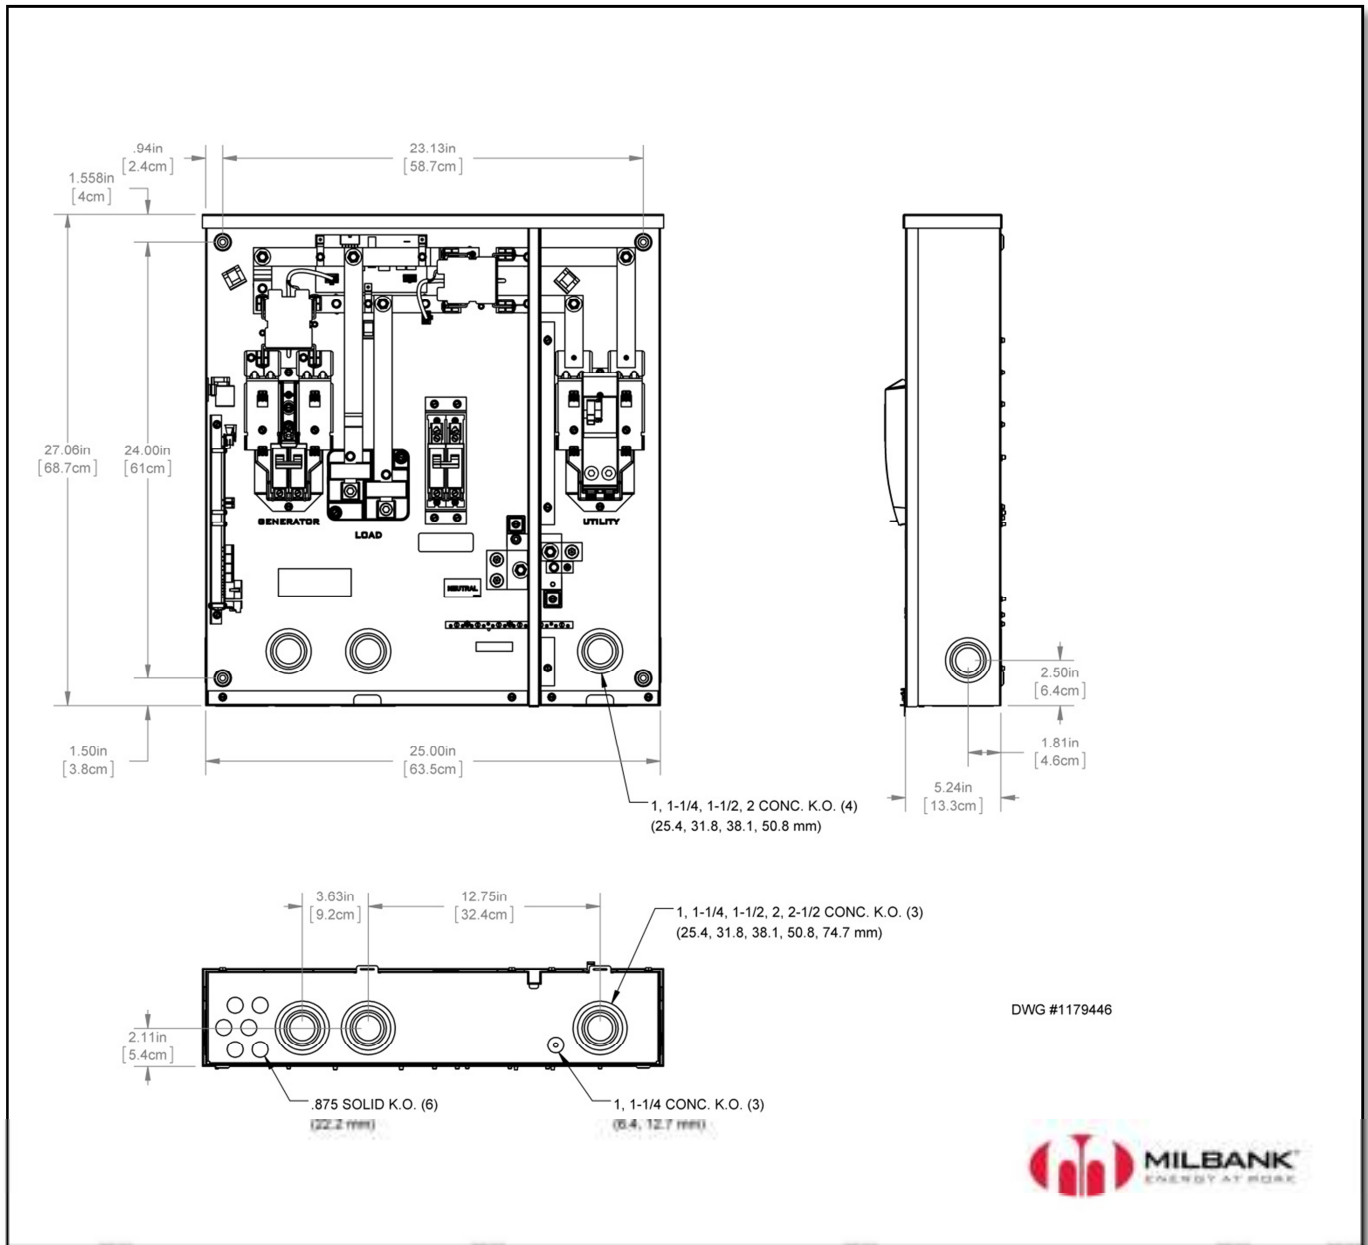

Figure 5 – Mounting Dimensions
- Mounting dimensions for the SynapSwitch™ enclosure are included in this manual; see *Figure 5*.